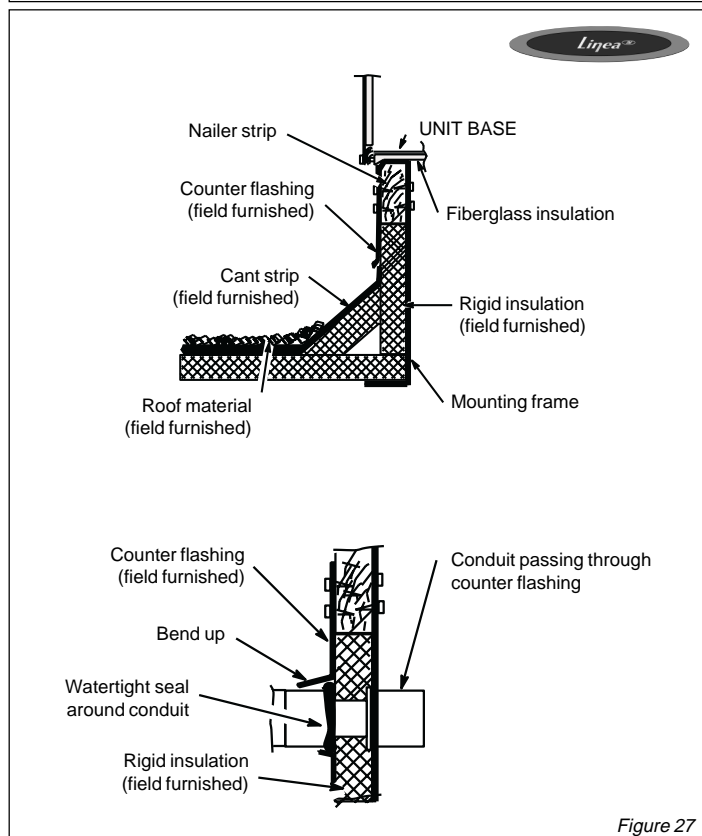

Figure 27
3. When bottom power service is used, cut counter flashing for conduit clearance and make a watertight seal around conduit section passing through counter flashing (see figure 27).